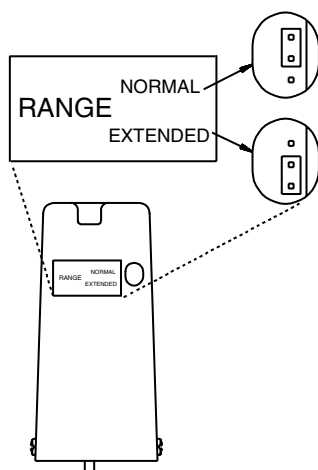

Figure 4-1
The range selector switch on the side of the instrument (Figure 4-1) is set at the factory. In most applications, the *No-Cal* instrument functions in normal range. However, when the standing capacitance (pF) of the sensing element in air is very high, extended range is used.
- locating range selector jumper on side of unit. See Figure 4-1.